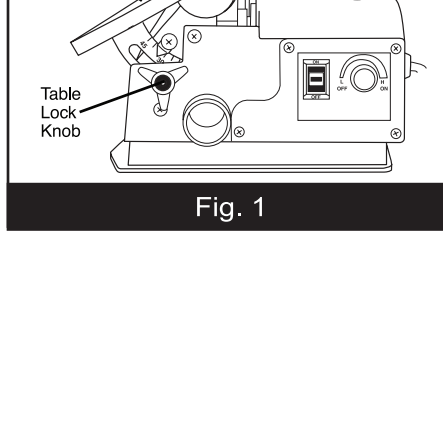

Fig. 1
- NOTE:** When cutting at angles, the drop foot can be tilted so parallel to the table and rests flat against the workpiece. To tilt drop foot, loosen allen screw, tilt foot so it parallel to table and securely tighten screw. (Fig. 1)